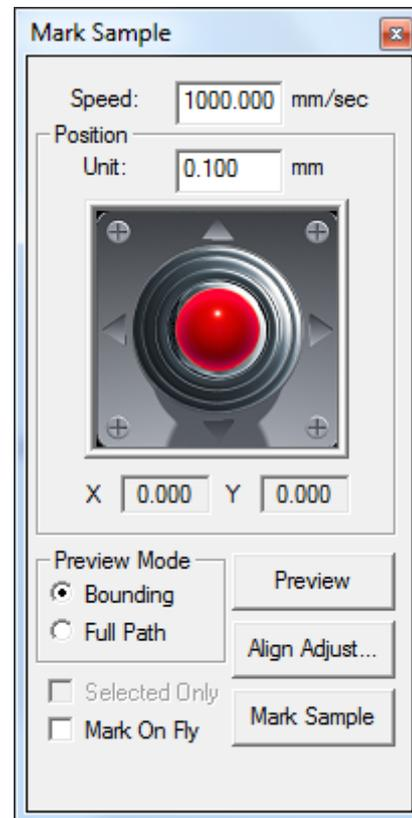

Fig. 5.1.01
This function is used to position the marking object. The interface shows as Fig.5.1.01. It uses align light instead of laser to display marking route on work piece. Users can adjust the position of work piece to fit the marking area through this function.
**Position:** Click the four arrows around the control lever in Fig.5.1.01 to move the align light, and the moving distance depends on X or Y value which is set at “Unit.”